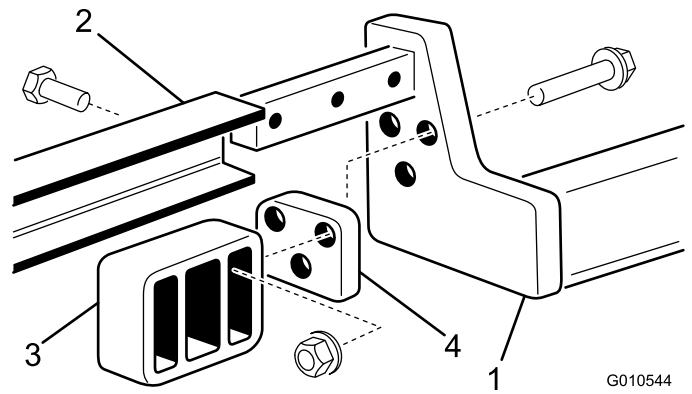

Figure 6
- 0.406 inch (10.31 mm) diameter (3)
- Mount a rear cradle to each lift arm with 3 bolts (3/8 x 2 inches), spacers, and flange nuts as shown in Figure 6.
- Slide the carrier frame onto the lift arms aligning the mounting holes. Secure each side of the carrier frame to the lift arms with 3 bolts (1/2 x 1-1/2 inches). Torque the bolts to 70-80 ft-lb (95-108 N-m) (Figure 6).